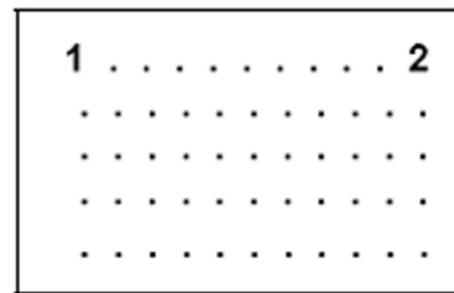

Figure 7-77
- 6.) Zoom in on the last BB on the top right of the grid, place the cursor in the center of the BB, and press **2** (Figure 7-77).